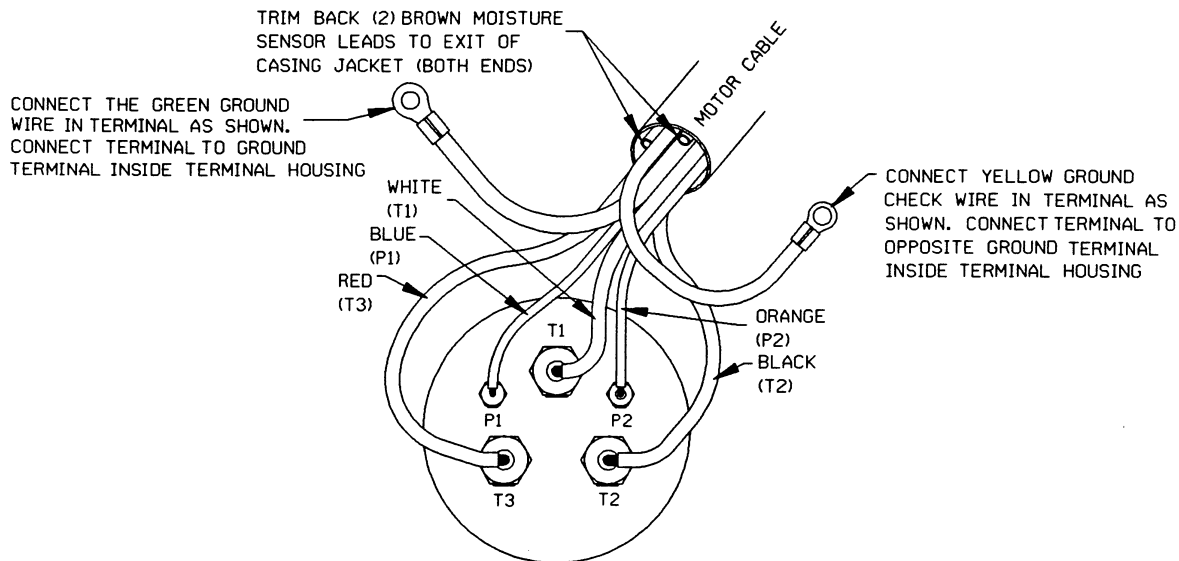

Figure 5. Terminal Housing Wiring Connections
Slide a length of heat-shrink tubing up over each of the power cable leads. Insert the standard power cable leads into the large terminal collars (26), and secure them with the setscrews (27). Insert the two control leads into the small terminal collars (14) and secure them with the setscrews (13). See Figure 5 for wiring connections.